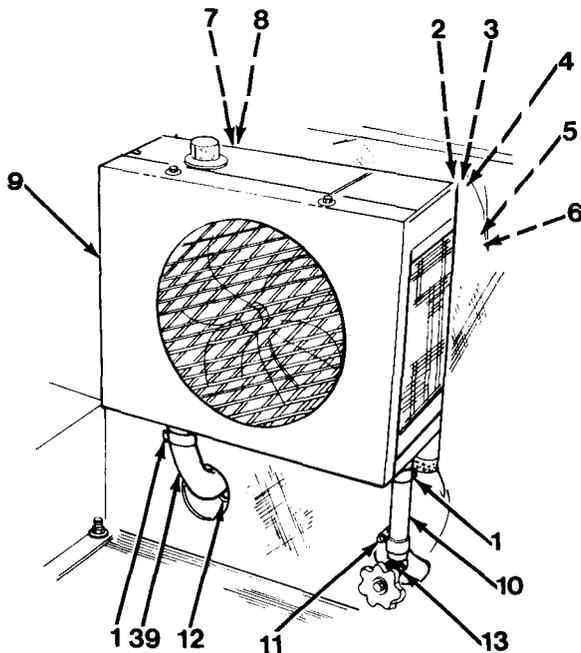

Figure 17-1
3. Loosen two clamps (1) and disconnect hoses (10) and (39) from heater assembly (9, Figure 17-1).
4. Remove two clamps (1).